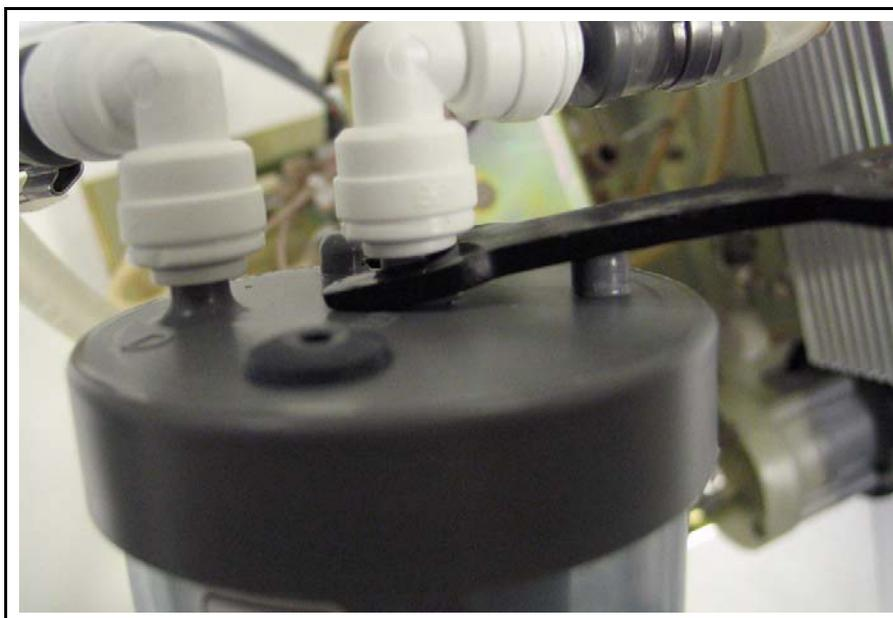

Figure 38: John Guest fittings on the DI Water Cartridge (Detail)
8. Remove the John Guest fitting labeled "B" from the barb on the top of the DI water cartridge. To loosen the fitting, use the John Guest fitting removal tool from the accessories kit to push in on the bottom ring on the fitting, so that the ring moves toward the fitting. Place the fitting into the tray to collect water (see Figure 38).